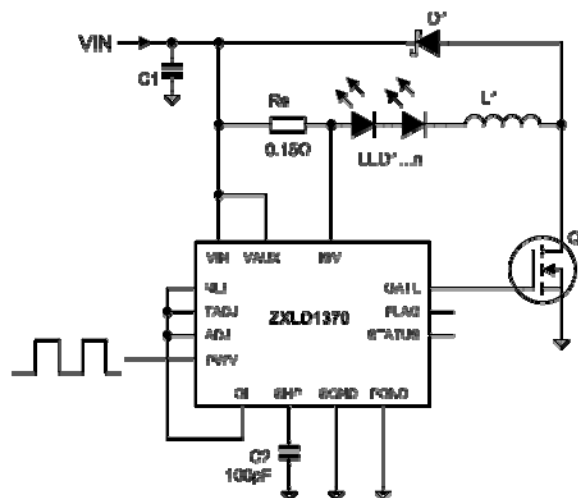

Figure 21 Buck Configuration
a) Buck mode – the most simple buck circuit is shown in Figure 21